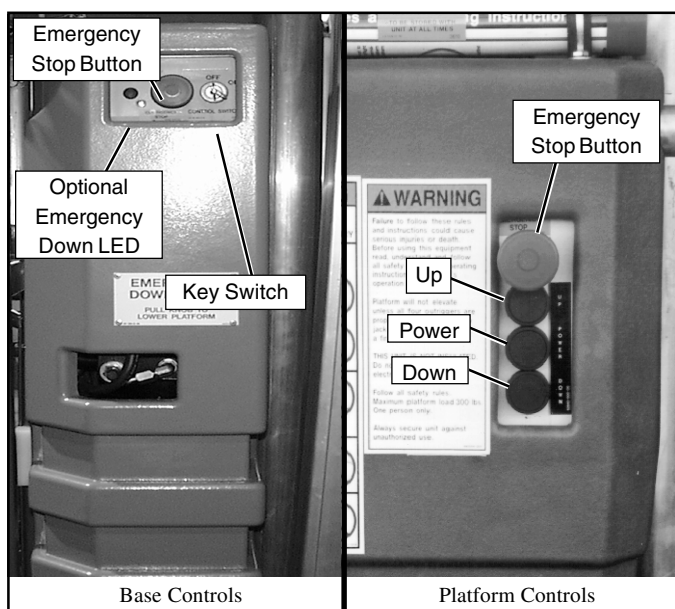

Figure 2: Controls
3. Turn Key to **ON**, Key Switch is located on the left side of the mast (Figure 2).
4. Pull out on Lower Emergency Stop Button, located on the left side of the mast (Figure 2), to turn switch ON. In the event of an emergency push the button in to cut power to all controls.
8. Pull out on Emergency Stop Button, located on platform control panel (Figure 2). In the event of an emergency push the button in to cut power to all controls.
9. Push both the middle and top buttons (POWER and UP), on the Control Box (Figure 2), at the same time to elevate the platform. Release the buttons to stop.